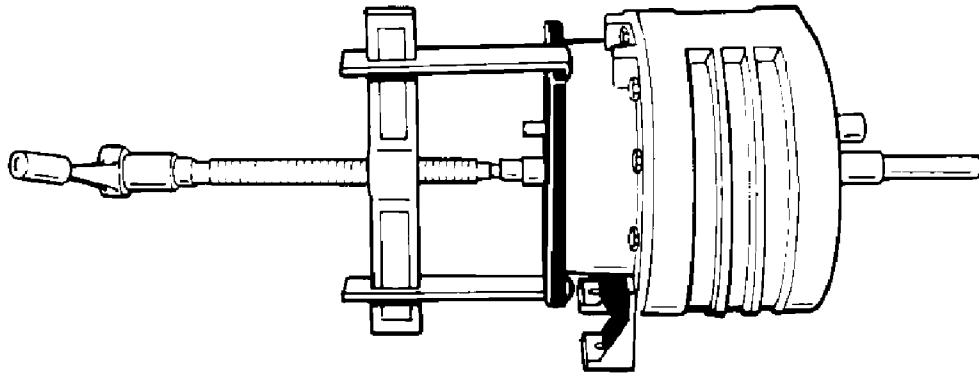

FIGURE 17
14. Remove the four cap screws (10), which fasten the bearing retainers (12) to the gear headplate.
16. Install a gear puller to one of the shafts and attach puller arms to the plate (see FIGURE 17).
17. Remove mounting foot (17) from the gear headplate by removing 4 capscrews (16).
18. Push the impeller shaft through the gear headplate and remove the impeller assembly (23) (see FIGURE 17). Remove the other impeller assembly following the same procedure.
19. Remove the cap screws (21) securing the gear headplate to the impeller case. Located near each dowel pin on the headplate is a threaded hole. Insert a 5/16-18 UNC capscrew into each of the threaded holes. Tighten the screws evenly until the headplate separates from the impeller case.
20. Remove the two gear end bearings (14) from the gear headplate (18) as done in step 12.
21. Remove the oil seals (15) from gear headplate (19) as done in step 13.